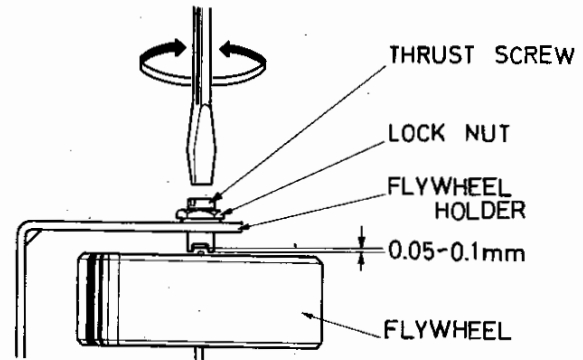

Fig. 5.7
Refer to the Fig. 5.7 and item 3.1, cabinet removal procedure. Adjust the flywheel clearances should be 0.05 to 0.1mm. After adjustment lock the lock nut.